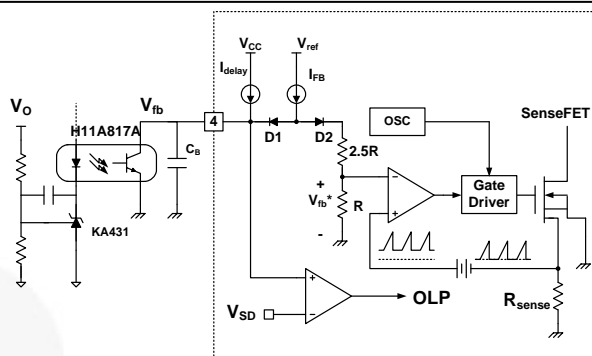

Figure 32. Pulse Width Modulation (PWM) Circuit
3. Feedback Control: The FSCQ series employs current mode control, as shown in Figure 32. An opto-coupler (such as Fairchild's H11A817A) and shunt regulator (such as Fairchild's KA431) are typically used to implement the feedback network. Comparing the feedback voltage with the voltage across the R_{sense} resistor, plus an offset voltage, makes it possible to control the switching duty cycle. When the reference pin voltage of the shunt regulator exceeds the internal reference voltage of 2.5 V, the opto-coupler LED current increases, pulling down the feedback voltage and reducing the duty cycle. This typically occurs when input voltage is increased or output load is decreased.
3.1 Pulse-by-Pulse Current Limit: Because current mode control is employed, the peak current through the SenseFET is limited by the inverting input of the PWM comparator (V_{fb}^*) as shown in Figure 32. The feedback current (I_{FB}) and internal resistors are designed so that the maximum cathode voltage of diode D_2 is about 2.8 V, which occurs when all I_{FB} flows through the internal resistors. Since D_1 is blocked when the feedback voltage (V_{fb}) exceeds 2.8 V, the maximum voltage of the cathode of D_2 is clamped at this voltage, thus clamping V_{fb}^* . Therefore, the peak value of the current through the SenseFET is limited.